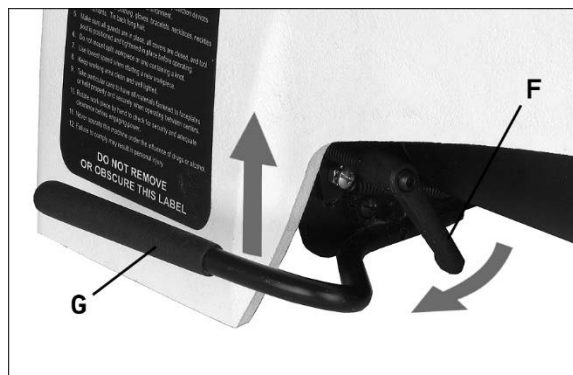

Figure 8-5
2. Relieve belt tension by pulling handle (F, Figure 8-5) while pushing up lever (G).
4. Push lever (G) down to tighten belt, and close access doors.